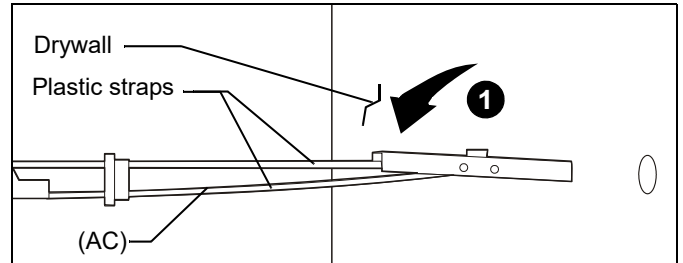

**Figure 20**
1. Install one UX10x60R anchor (AF) into each pilot hole using a hammer, making sure that the anchor is flush with the wall. (See Figure 20)
2. Use one 5/16" x 2-1/2" hex flange head lag bolt (AA) and one 5/16" washer (AB) through product into each anchor in wall. (See Figure 20)